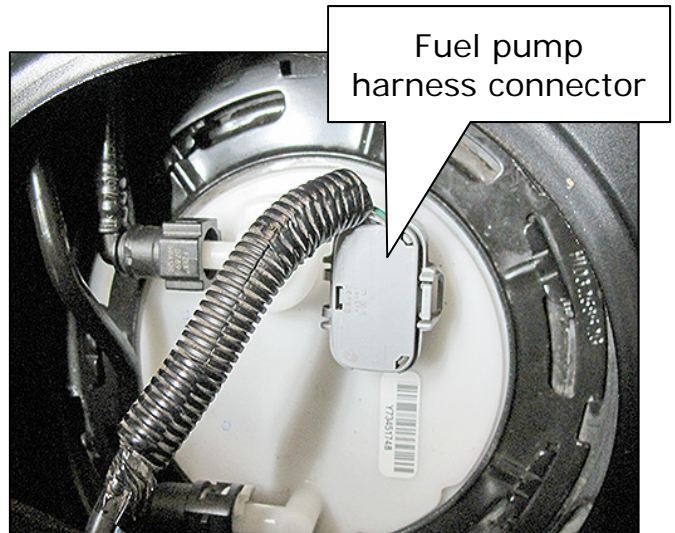

Figure 13
- Position the harness connector onto the fuel pump (see Figure 13).